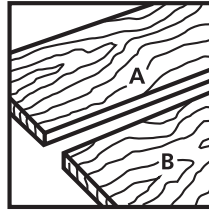

Figure 31
1. Align two boards in their finished position and mark them "A" and "B". See Figure 31.